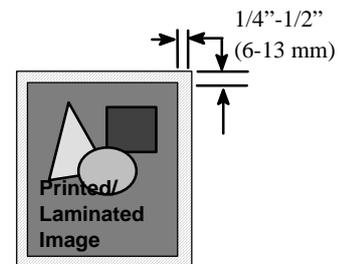

Figure 4. Trim, Leaving a Margin of Laminated Liner
4. Trim the graphic to its final dimensions, making sure to leave a margin of 1/4 to 1/2 inch (6 to 13 mm) laminated liner on all sides that require the laminate overlap. See Figure 4.